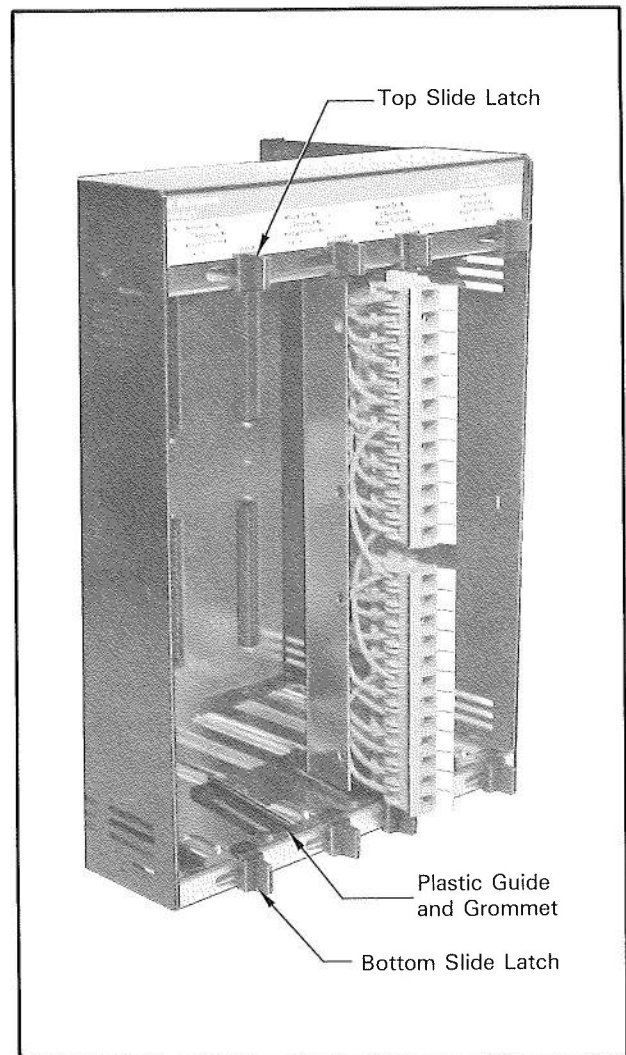

Figure 13 — Horizontal Rack with Terminal Raceway in Extended Position
Step 4 — Pull the Terminal Raceway for the appropriate I/O Rack module slot forward until it stops; lock the Raceway in the extended position (Figure 13) using the top and bottom slide latches.